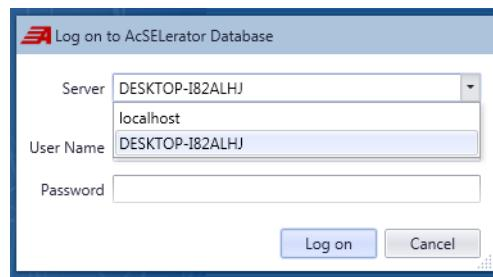

Figure 5.75 AcSELerator Database Login
- Step 2. In the **Log on to AcSELerator Database** window, click the **Server** dropdown menu to display the name of the computer on which the remote Device Manager database is stored (see *Figure 5.75*).